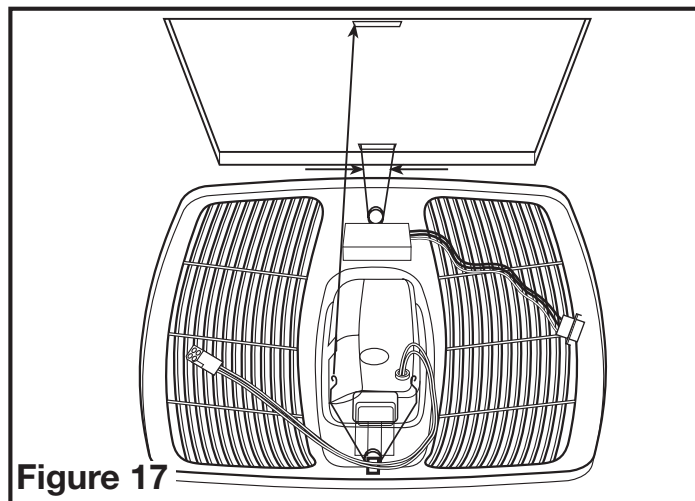

Figure 17
- 5b. **MOTION SENSING MODELS:** Install the grill by squeezing the springs together and installing it up into the slot furthest from the wire compartment on the fans housing. Attach the 4 pin quick connect from the grill to the 4 pin connector on the top of the wire cover. Attach the 4 pin quick connect from the motion sensor to the 4 pin connector on the top of the wire cover. The cords will only fit one way into the receptacle. Install the other spring and push the grill up into position. (**Figure 17**).